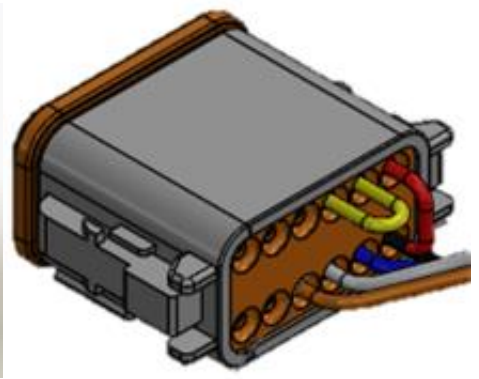

Figure 3. Close Up of Deutsch Plug
- Note: From Figure 3 below, every battery can have the RED and YELLOW wire loopback, but the M24 New Gen battery requires the RED loopback wire to power the battery ON.